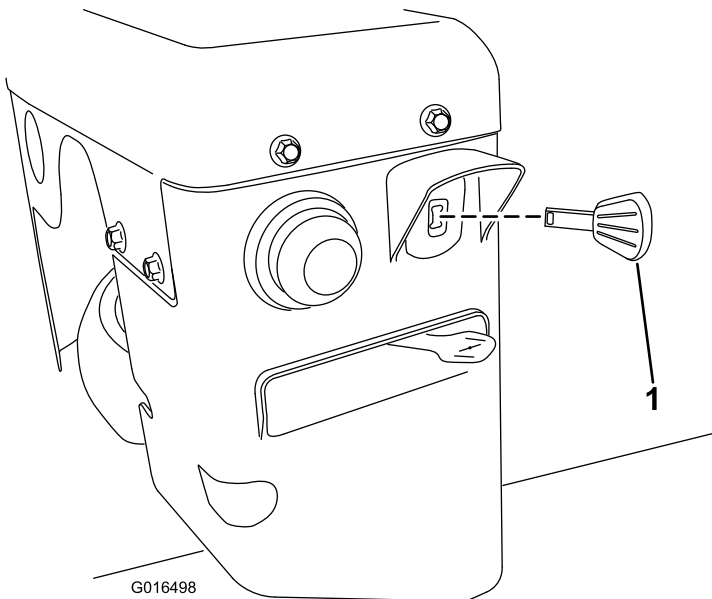

Figure 26
3. Insert the ignition key all the way in (Figure 26).